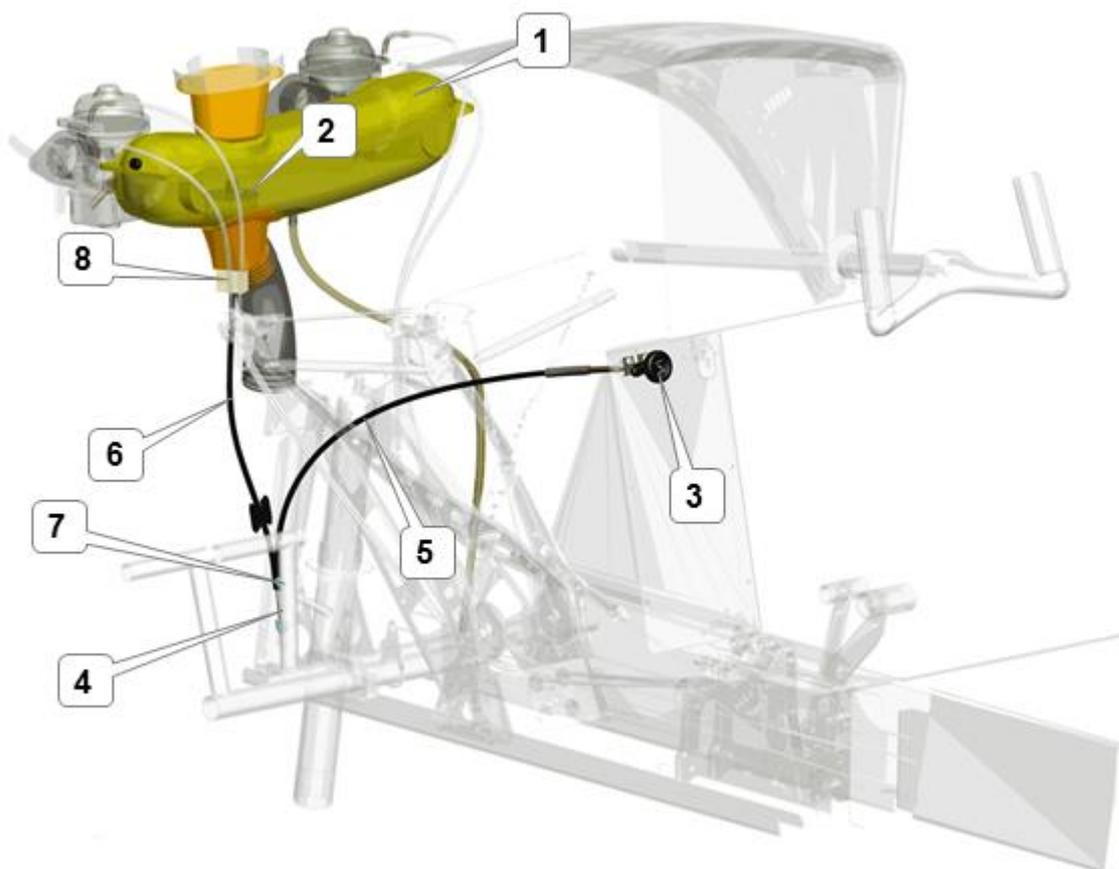

Fig. 11. Carburetor heating control
Carburetor heating control (**Fig. 11**) is achieved by means of controlling the position of the shutter (2) in the air intake box (1) covering the air filters of the carburetors. The control knob (3) is connected to the shutter with push-pull wire (4). The wire is sliding inside the front (6) and the rear (5) Bowden cables. The front Bowden cable is connected to the air intake box with the clamp (8). The rear Bowden cable is connected to the instrument